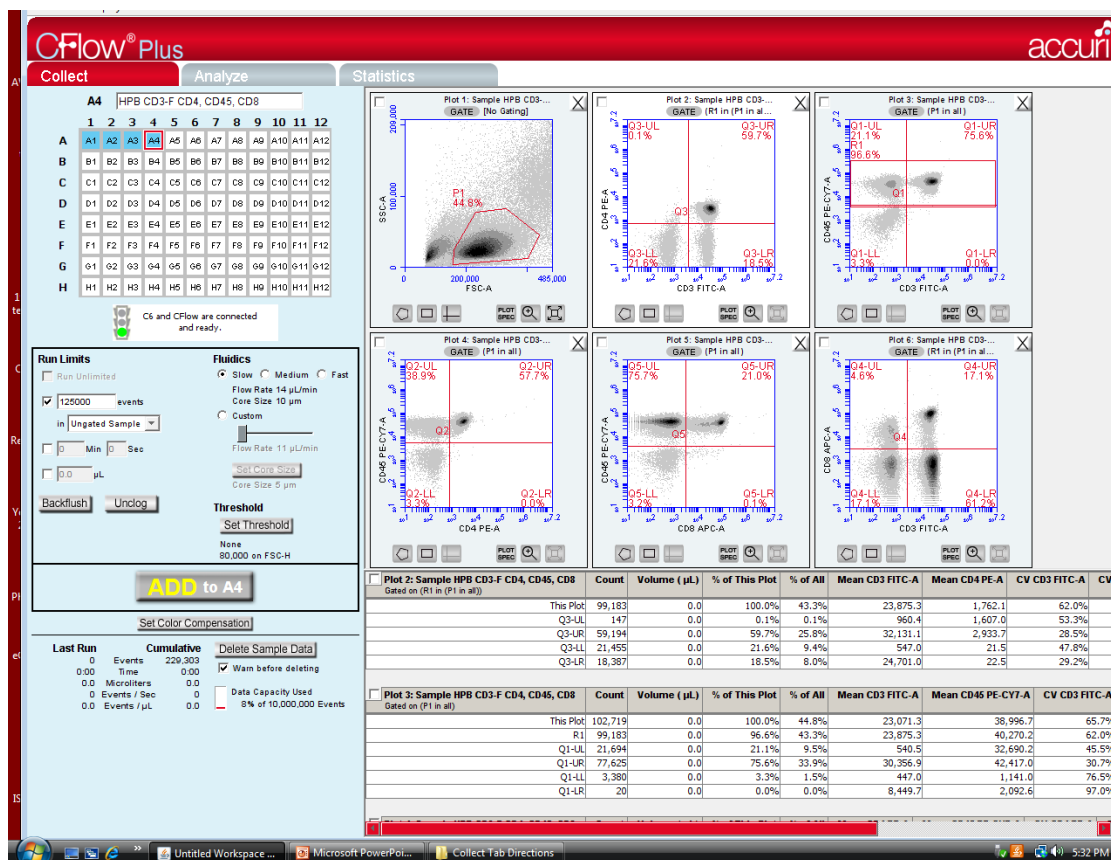

Figure 3-34 Gate for Plot 2 (CD3-FITC vs. FL2-A) includes events in gates R1 and P1, after following steps 1-3 in Adding and Applying Additional Gates.
8. See Figure 3-34 for a view of the Collect tab after application of the light scatter and CD45-PE-Cy7 positive gates to Plots 2 and 6, and collection of data for Sample 4.